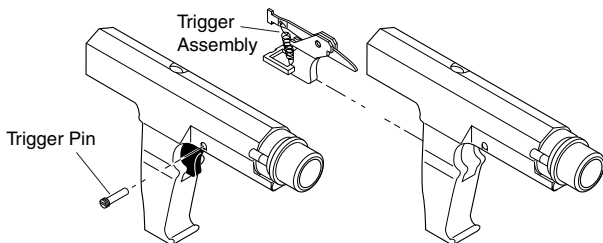

Figure 8 - Removing Trigger Pin and Trigger Assembly
1. Remove trigger pin from tool body (see Figure 8). **Note:** End of trigger pin is threaded. Unscrew threaded portion of pin, then pull pin from tool body.
1. Insert trigger assembly into tool body at rear of body (see Figure 8, page 20).